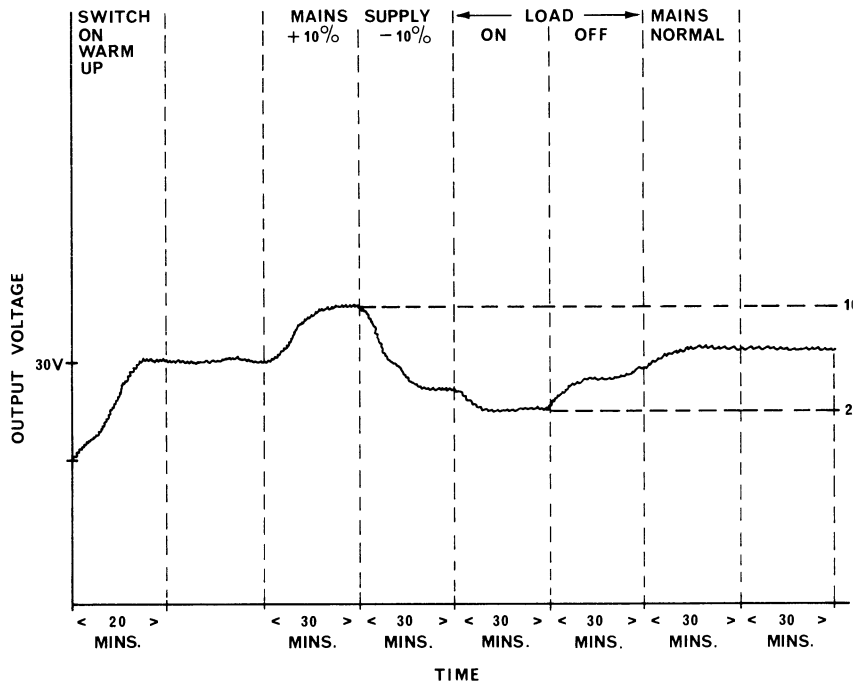

Fig.6. TYPICAL OUTPUT VOLTAGE VARIATION AGAINST TIME.
- (ii) Internal Change - A typical plot of output variation against time for changes in mains input and load is shown in Figure 6.